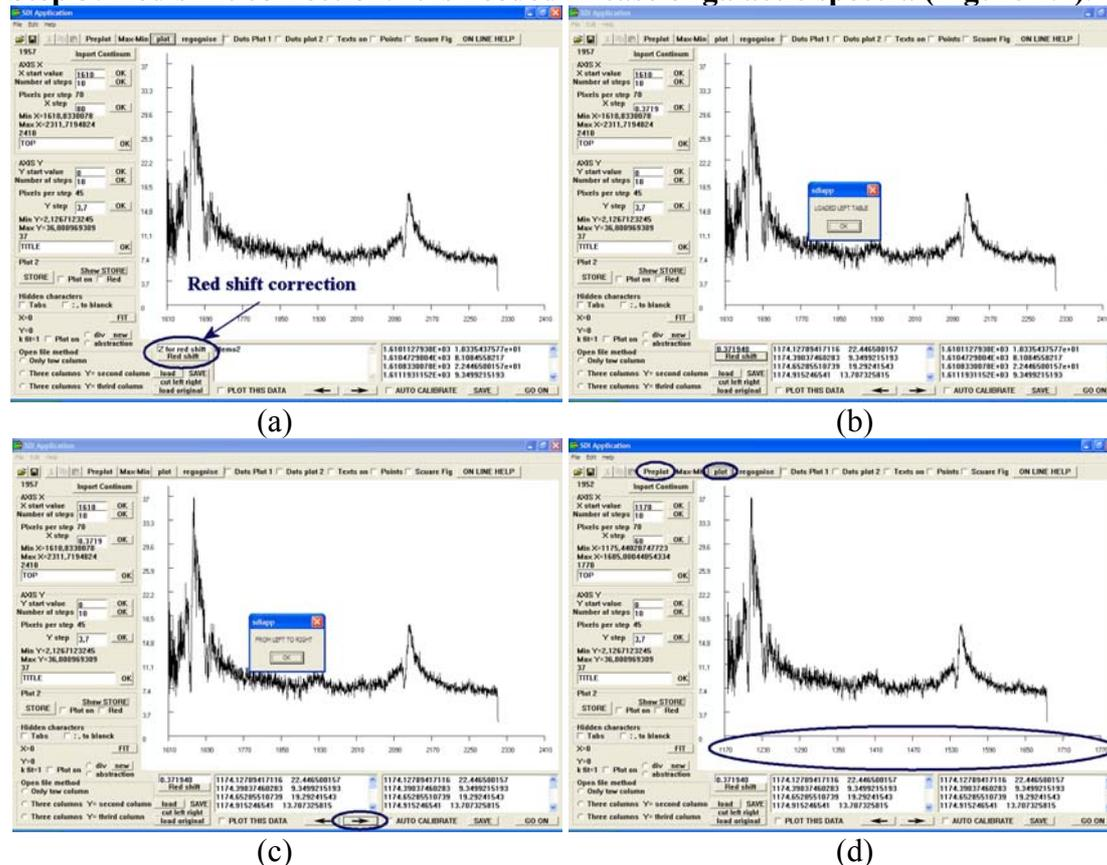

Figure 1.4
Step 3: Red shift correction. It is needed in case of galactic spectra (Figure 1.4).